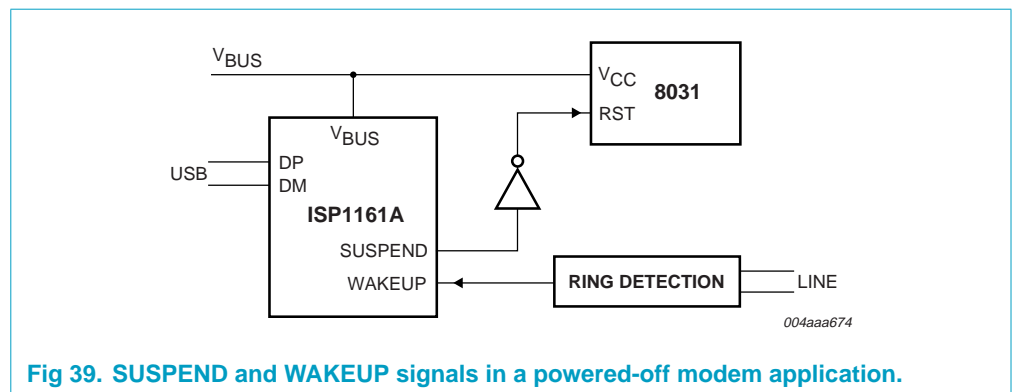

Fig 39. SUSPEND and WAKEUP signals in a powered-off modem application.
**Powered-off application:** **Figure 39** shows a typical bus-powered modem application using the ISP1161A1. The SUSPEND output switches off power to the microcontroller and other external circuits during the suspend state. The ISP1161A1 DC is woken up through the USB bus (global resume) or by the ring detection circuit on the telephone line.